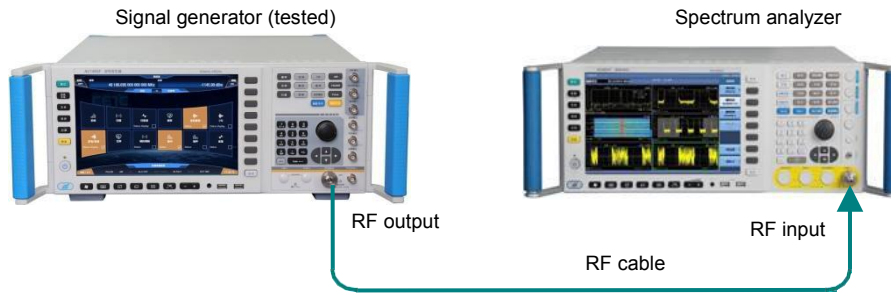

Fig.7.8 Pulse Modulation Rise/Fall Test
Step 2. Connect the device as shown in Fig.7.8.